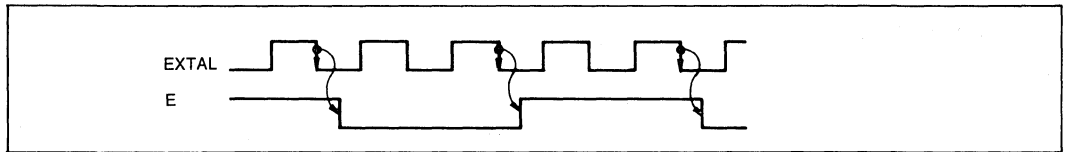

Figure III-11. E Clock Timing
**Answer:** It changes synchronously with the falling edge (figure III-11).